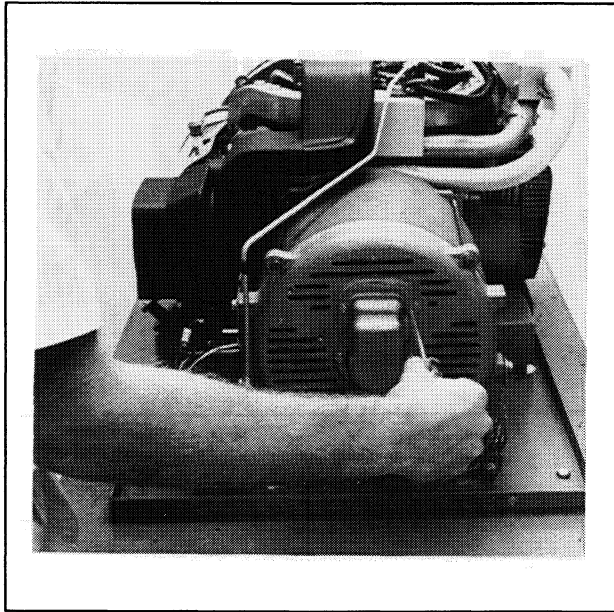

Figure 8-5. Removing Brush Holder Cover
12. Remove screws securing brush holder cover to end bracket. Figure 8-5.